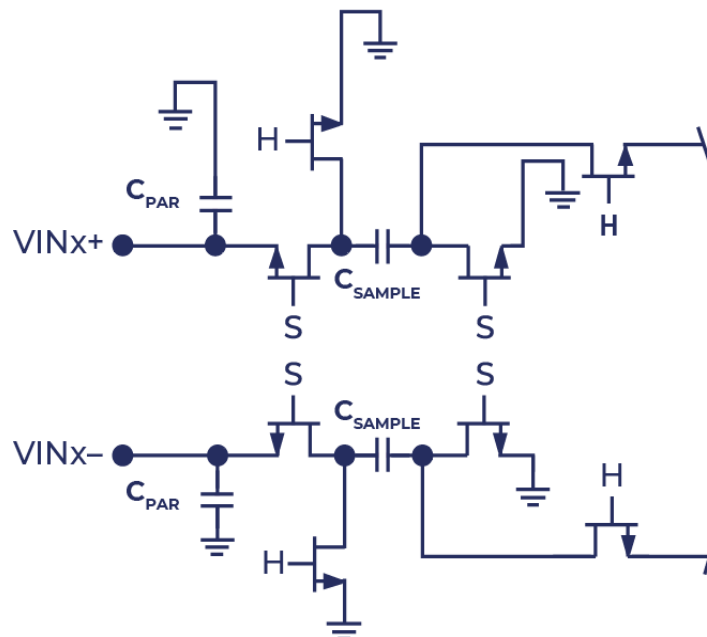

Figure 29. Switched-Capacitor Input Circuit
The input circuit switches between sampling mode and hold mode according to the clock signal (see Figure 29). When the input circuit switches to sampling mode, the signal source must be able to charge the sampling capacitor and settle within half a clock cycle. A small resistor is placed in series with each input to help reduce the peak transient current injected from the output stage of the driving source. In addition, a low-Q inductor or ferrite bead can be used on each side of the input to reduce the high differential capacitance at the analog input, thereby achieving maximum ADC bandwidth. When driving the converter front end at high intermediate frequencies (IF), low-Q inductors or ferrite beads must be used. A differential capacitor or two single-ended capacitors can be used at the input to provide a matched passive network. This ultimately forms a low-pass filter at the input to limit unwanted wideband noise.